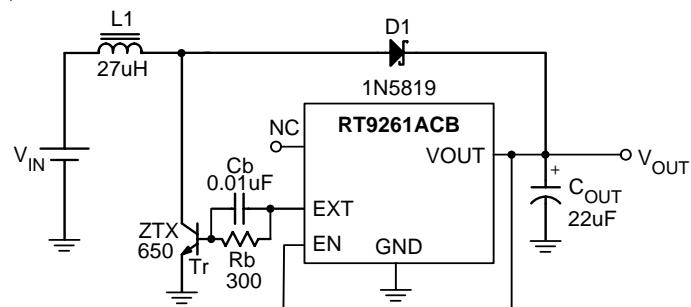

Figure 4
**Electrical Characteristics** (Refer to Figure 4)